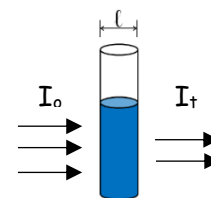

Figure 1. Transmittance of light through a solution in a cuvette. $\ell = 1.00$ cm in this experiment.
Beer-Lambert Law. Because reaction (1) involves a colored substance, the reaction can be studied using spectrophotometry, an analytical technique used to measure the amount of light absorbed by a substance (or substances) in solution. This is illustrated in Figure 1. I_o and I_t are the incident and transmitted intensity of light, respectively, through a solution of path length ℓ . The amount of light transmitted through a solution can be expressed as the percent transmittance, %T, which is simply $(I_t/I_o) \times 100$. Note that %T has no units because the units of intensity cancel. Absorbance, **A**, is defined as